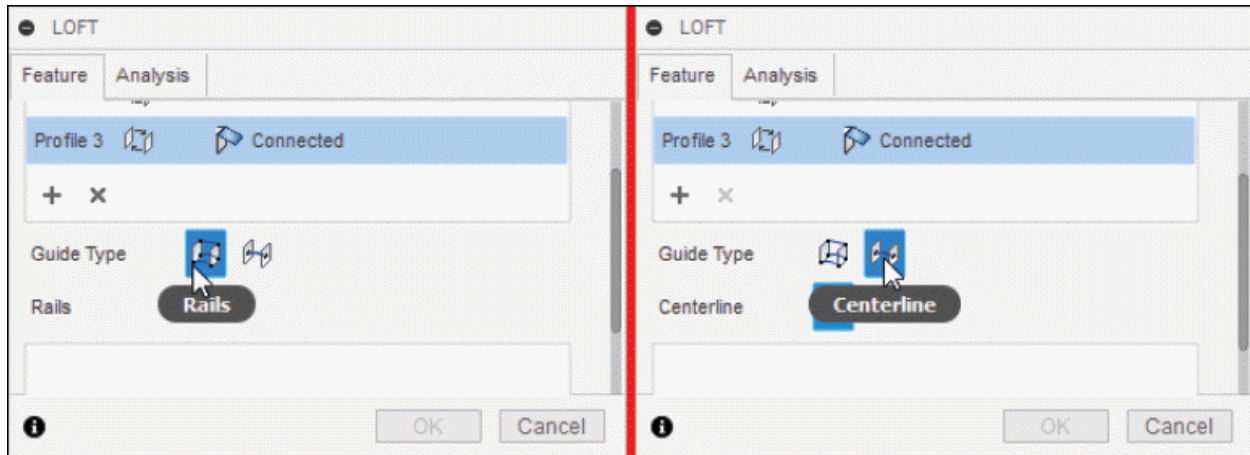

Figure-12. Rails and Centerline tool
- To select rails for the loft, click the **Rails** button in **Guide Type** section; refer to Figure-12.